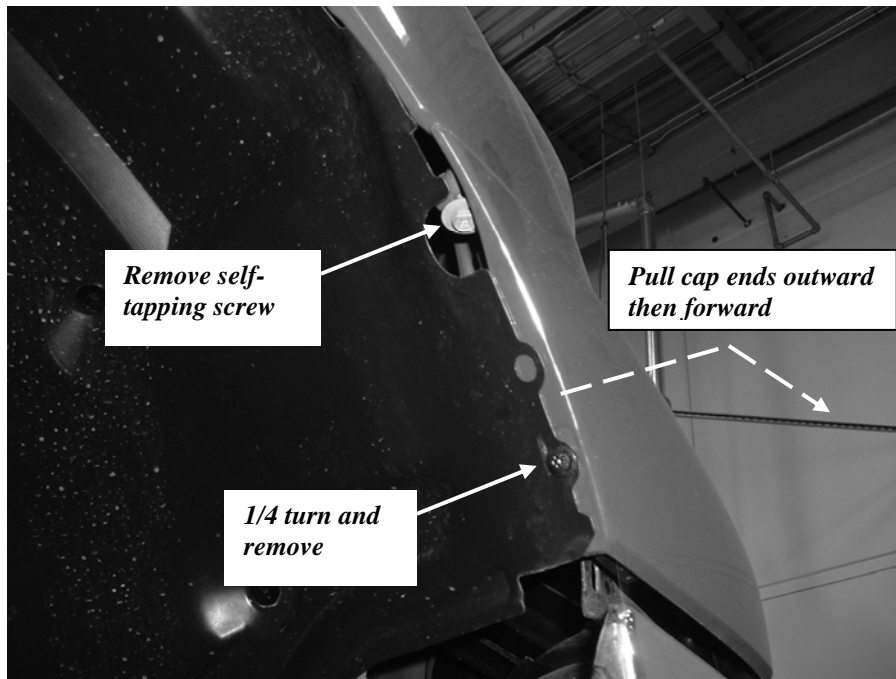

Figure 3 Bumper cap end RH
5. Remove the bumper cap by pulling the ends straight outward. The cap is snapped into plastic brackets and requires a sharp pull to disconnect it. Then pull the cap forward to free the alignment pins in front. **Figure 3**